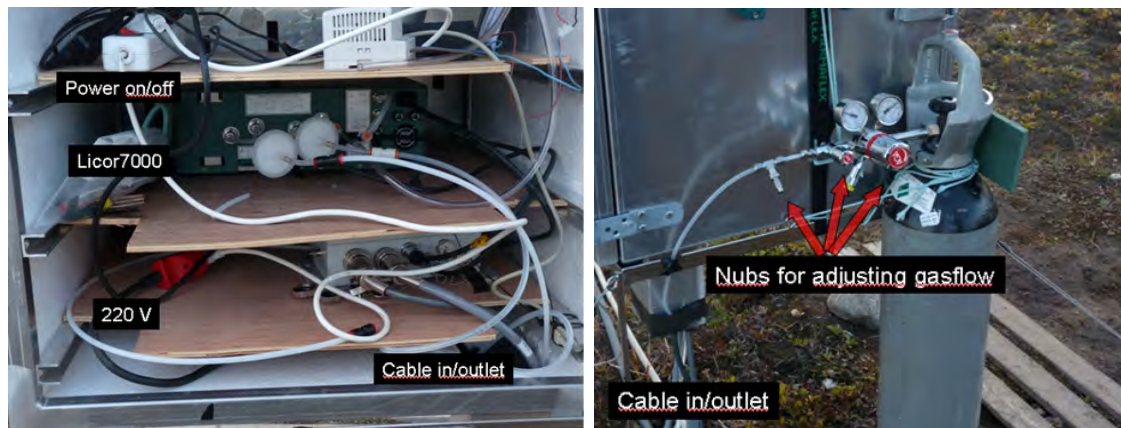

Figure 73: A look into the enclosure from the Back (left) Gas supply for the Licor7000 (right).
3. Switch on the external pump on the (On/Off) switch (Fig. 73).
1. Switch off the external pump on the (On/Off) switch (Fig. 73).
4. Check the flow rate of the incoming nitrogen gas (see Fig. 73). On the backside of the Licor7000 an outlet tube from cell A leads out to the open air. There should always be a continuous flow from the tube of about 1-2 bobbles per second. Bring a small bottle with water (can be left in the enclosure, as long as the air temperature is above freezing) and insert the outlet tube from cell A into the water. Allow bobbles to escape through the water by orientating the outlet horizontally or slightly upwards inside the bottle. Notice the time on your watch, count 20 bobbles and look at your watch again. If 10-20 seconds have passed the air flow is fine, if not adjust the nubs on the nitrogen gas bottle just next to the enclosure. Allow the flow to stabilize for a couple of seconds, before performing the bobble test again. Repeat this exercise until the gas flow is correct. During the main field season
3. Connect a new filter to the tubes. Make sure the tube covers the filter branch completely and that the filter is installed so inlet/outlet is in the right direction according to the direction of the air flow (Fig. 73).